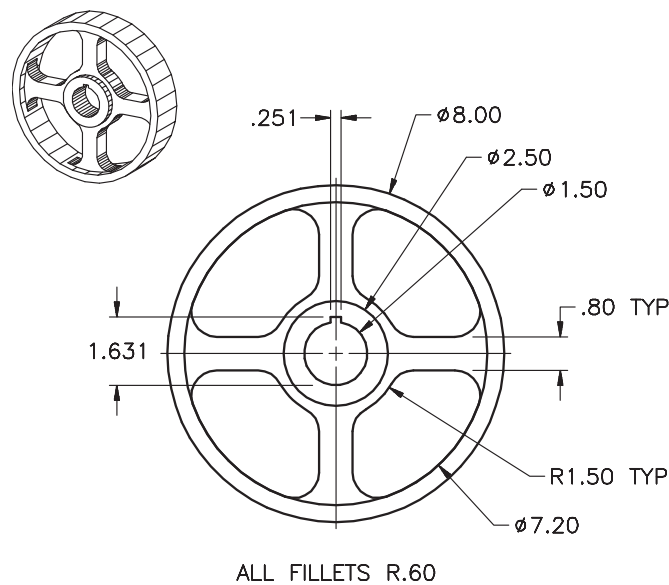
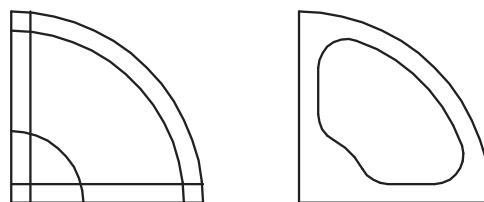

Fig. 17-18
Fig. 17-19
9. Draw the front view of the wheel shown in Fig. 17-18. Begin by drawing one quarter of the object. Draw the three arcs and four lines, as shown in Fig. 17-19. Center the arcs on a known point. Next, use the **FILLET** command to create the cavity shown on the right. Erase the outside lines and the outside arc. Then use the **MIRROR** command to make three more copies of the cavity. Complete the drawing by adding arcs and circles. Try constructing the keyway by first drawing half of the shape, then using **MIRROR** to generate the other half. For more practice, try drawing one-eighth of a wheel.